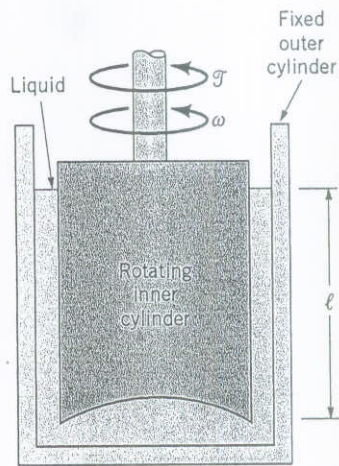

FIGURE P1.70
1.70 The viscosity of liquids can be measured through the use of a *rotating cylinder viscometer* of the type illustrated in Fig. P1.70. In this device the outer cylinder is fixed and the inner cylinder is rotated with an angular velocity, ω . The torque \mathcal{T} required to develop ω is measured and the viscosity is calculated from these two measurements. (a) Develop an equation relating μ , ω , \mathcal{T} , ℓ , R_o , and R_i . Neglect end effects and assume the velocity distribution in the gap is linear. (b) The following torque-angular velocity data were obtained with a rotating cylinder viscometer of the type discussed in part (a).